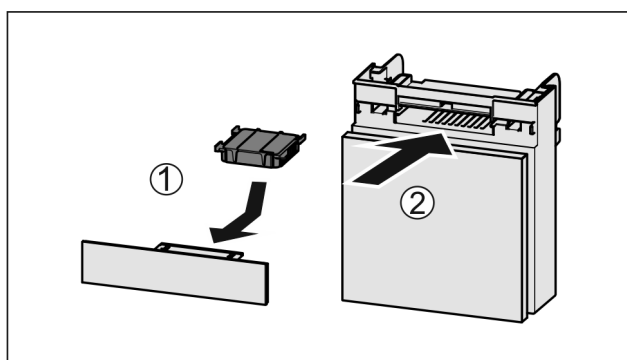

Fig. 144
- Insert the carbon filter as shown in the diagram Fig. 144 (1).
- Push the compartment in Fig. 144 (2).